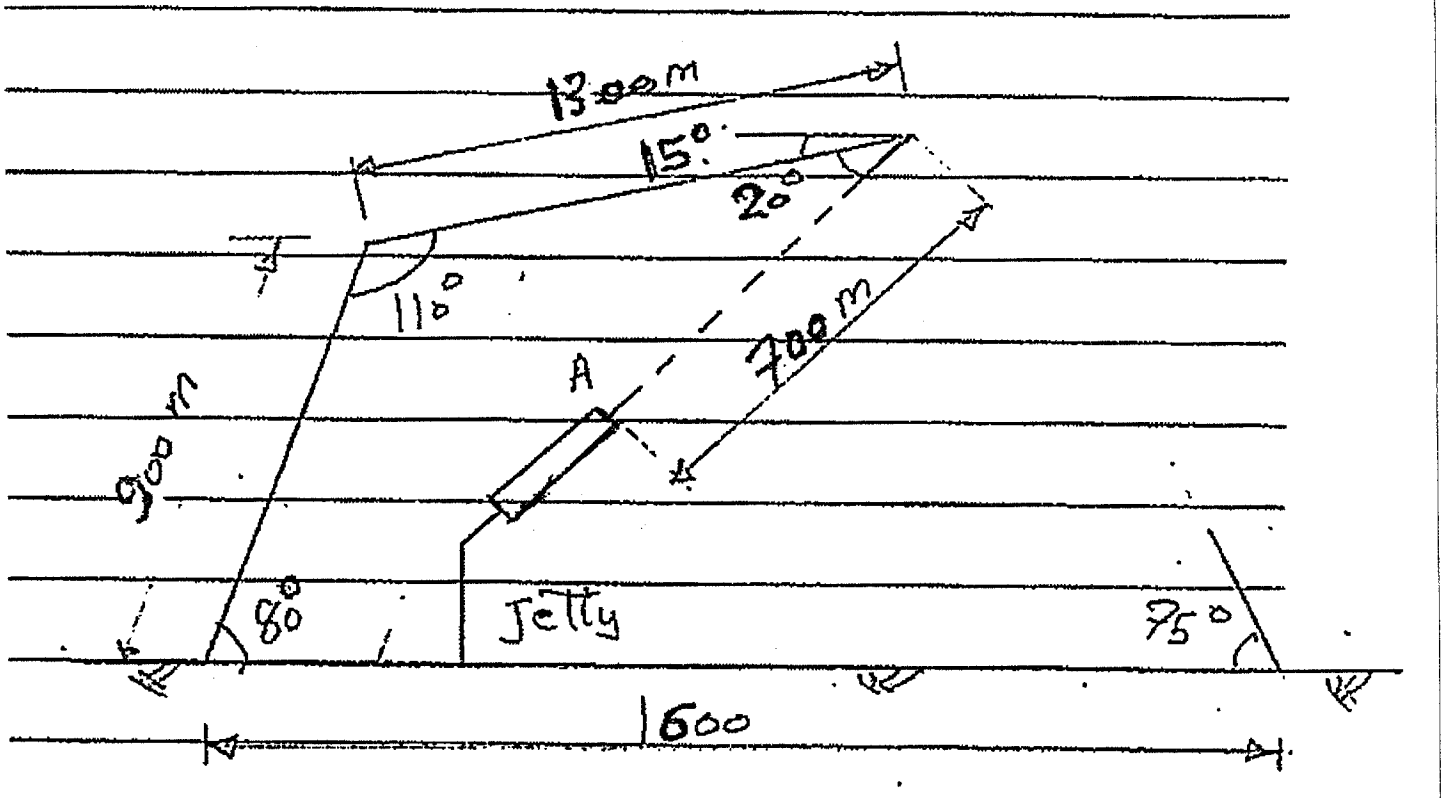

Figure 1
- A harbor is to be constructed a long the shown coastal area. Wave are approaching the entrance with the crest line making an angle of 25^0 , the wave height in deep water is 3.4 m and wave period is 9.0 seconds. The depth of dredging is 15.0 m and Kr at entrance is 0.74. Find the wave height at point A in figure 1.